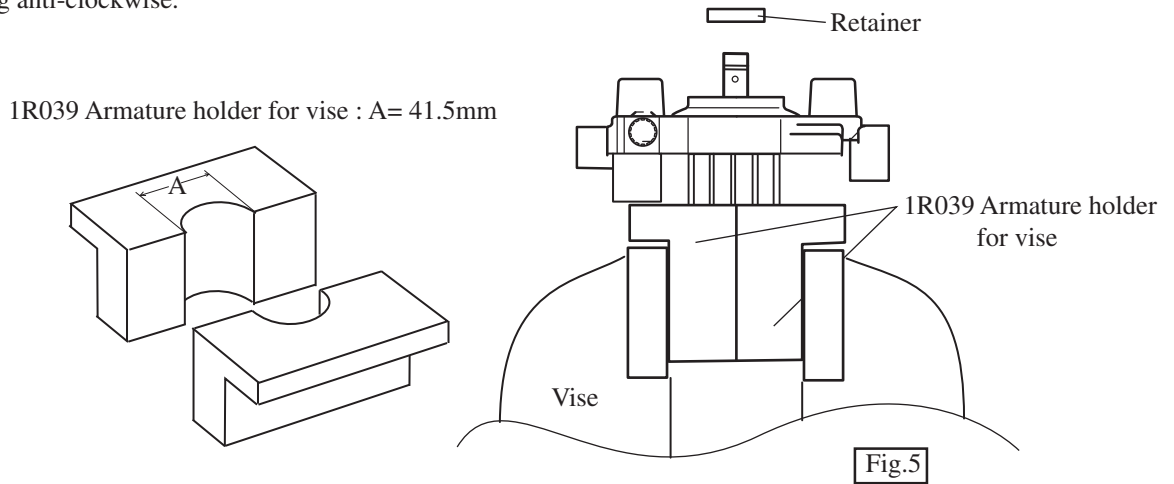

Fig.5
- (10)Set armature in No.1R039 armature holder, and hold the armature holder with vise as illustrated in Fig.5. Remove retainer with spanner 32 or monkey wrench from armature shaft by turning anti-clockwise.